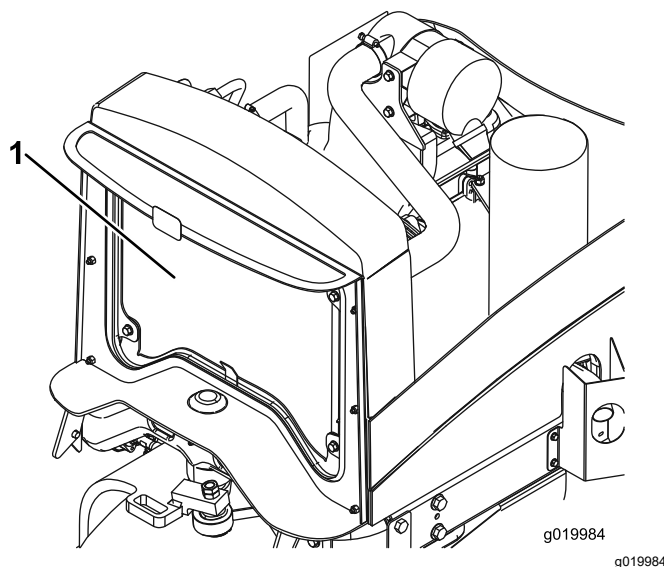

Figure 60
2. Clean both sides of the radiator/oil cooler thoroughly with compressed air (Figure 60).